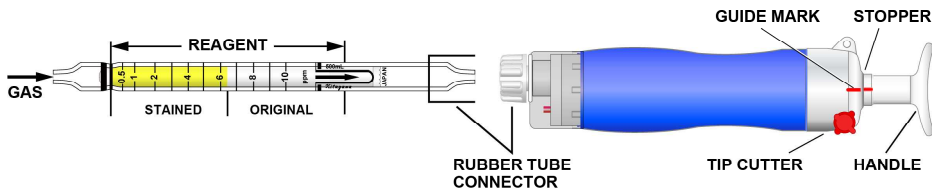

Fig.1
- ① Break both ends of the detector tube.
- ② Insert the detector tube into the aspirating pump securely as shown in Fig.1. (Arrow mark shall point to the pump.)
- ③ Align the guide marks on the shaft and stopper of the aspirating pump.
- ④ Pull the pump handle at a full stroke until it locks and wait for 1.5 minutes or until the completion of sampling is confirmed with the flow indicator of the pump (See descriptions about the flow indicator in the instruction manual of the pump).
- ⑤ Push back the handle without removing the detector tube from the rubber tube connector so that air in the pump will be discharged perfectly.
- ⑥ Then repeat the steps ③~⑤ another four times.
- ⑦ On completion of sampling, read the scale at the maximum point of the stained layer.
- ① Temperature; The scale is calibrated based on the temperature of 20 °C (68°F). Readings obtained under 15 °C (59°F) circumstances should be corrected with the following temperature correction table.